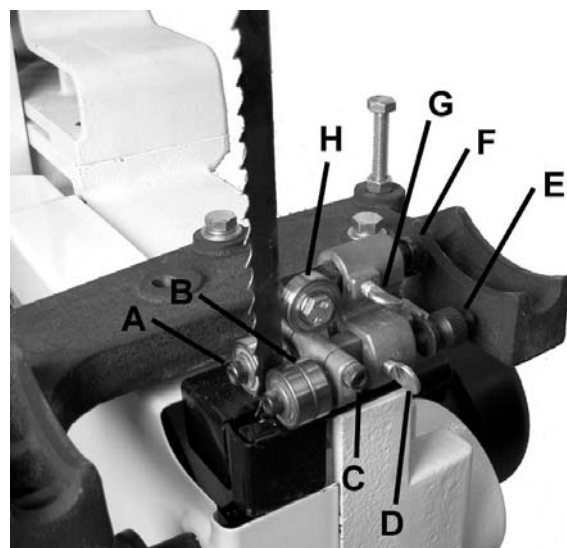

Figure 12
3. Loosen thumb screw (G, Fig. 12) and turn knurled knob (F, Fig. 12) to move the thrust bearing (H, Fig. 12) in or out until the bearing is 1/64" behind blade.
4. Tighten thumb screw (G, Fig. 12).
5. Loosen thumb screw (D, Fig. 12) and turn knurled knob (E, Fig. 12) to move the guide block bracket in or out until the front edge of the guide bearings are just behind the "gullets" of the saw teeth.
6. Tighten thumb screw (D, Fig. 12).
7. Loosen lock bolt (C, Fig. 12) and rotate guide bearings (B, Fig. 12) using cam (A, Fig. 12) with provided 4mm hex wrench as close to blade as possible without pinching it.
8. Tighten lock bolt (C, Fig. 12).